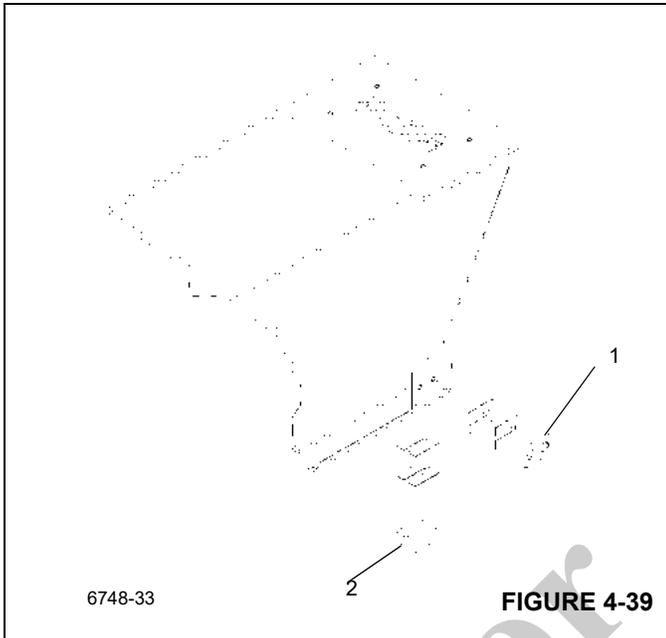

FIGURE 4-39
1. Measure and mark the center line of the Fly Section. This mark will be used to set the adjustable wear pads(1), (Figure 4-39) after the section is installed in the Outer Mid Section.
2. Install the lower rear side wear pads (1), (Figure 4-39) and shims on the Fly Section with two screws each.
3. Install the bottom rear wear pad (2), (Figure 4-39) on the Fly Section with two screws.